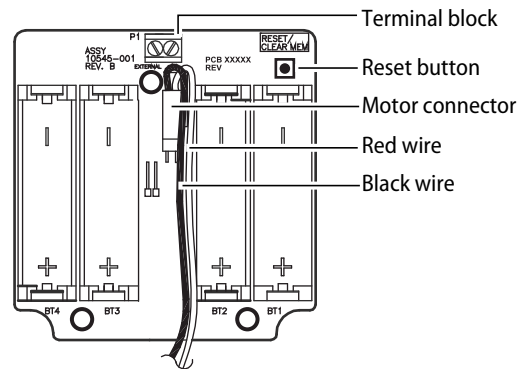
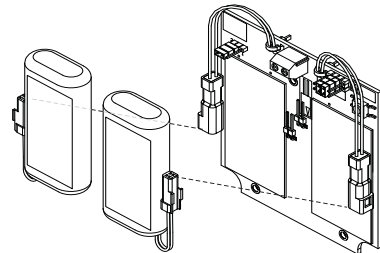

Figure 11 Using the reset button
Figure 12 Weatherized battery packs
- 3 Install batteries with proper polarity as shown in Figure 11. (For weatherized battery packs, simply connect the wires from the battery pack to the circuit board as shown in Figure 12.)
- 4 Press and hold the reset button on the PC board (as shown in Figure 11) until the green light on the keypad flashes (about three seconds), then release the button. If the green light does not flash see “Troubleshooting” on page 10.
If the mechanism does not unlock, remove the battery cover and check for proper orientation and seating of the batteries and motor connector. Ensure that wires are not pinched. Reset the electronics by pressing and holding the reset button on the circuit board until the light flashes green (approx three seconds), then release. See Figure 12.